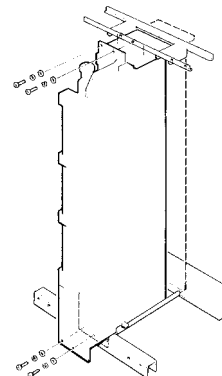

Figure 5-5. – Moving & Securing A Power Module In Position Beyond The Stop Screw
- f) Use four M6 x 12 mm pozi-head screws with plain and spring washers, supplied as part of the mounting frame kit, to secure the power module in place, see Figure 5-5.